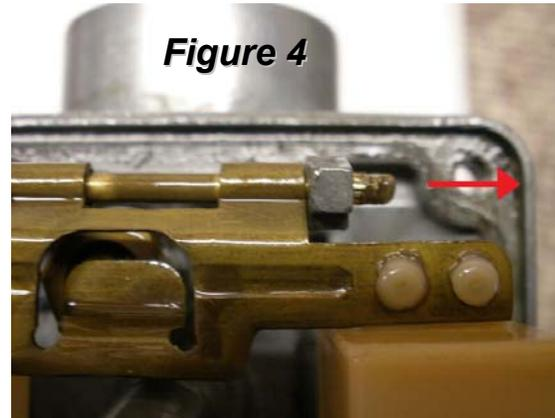

Figure 4
- **If Not, Remove the Carburetor from the Jar, and Remove the Spindle (axle) Holding the Float (Fig. 4) and Then the Float Itself**